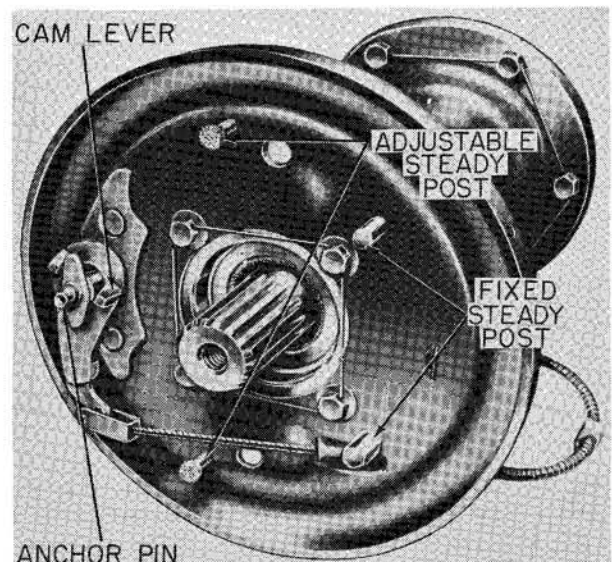

Fig. 163—View of brake backing plate assembly with brake shoes removed. Refer also to Fig. 162.
213. **STEADY POST ADJUSTMENT.** The brake shoe hold down springs hold the shoes against adjustable steady posts; refer to Fig. 163. The steady posts should not require adjustment unless renewing or relining the brake shoes; refer to paragraph 214 for procedure.
Fig. 166 — Exploded view of model "FSM" and "New FSM" right brake assembly and actuating pedals and linkage. Left brake assembly is similar except that cover (9) does not contain differential lock operating linkage. Refer also to Figs. 163, 164 and 165.